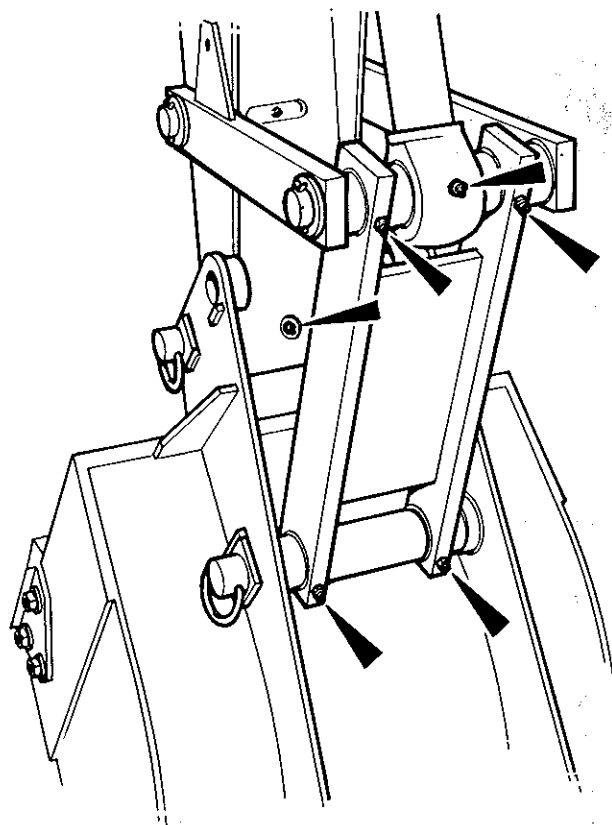

Fig. 4
18. Servicing is confined to greasing at the following six points (fig. 4) using the Servicing and Lubrication section of General Data: